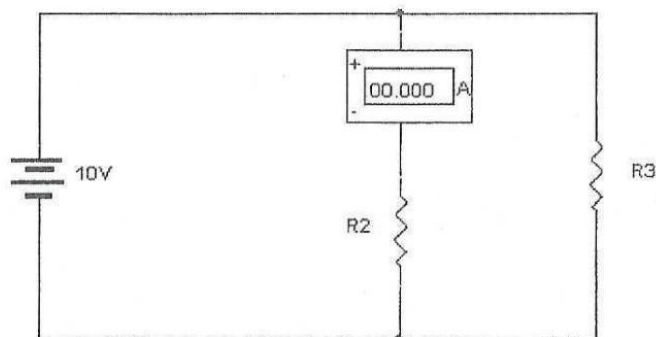

FIG. 2
- B. Place R_3 in parallel to R_2 (see FIG.2) and read the ammeter current I.